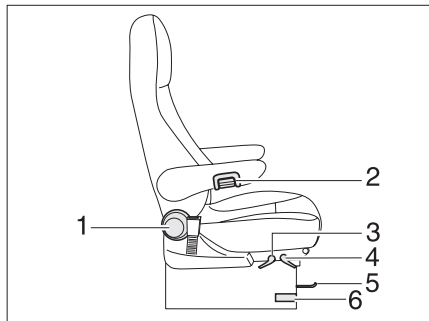

Fig. 11 Driver's seat and front passenger's seat
- ▶ Turn the seat in the direction of travel and lock it with the locking lever (Fig. 11,6).
- ▶ Turn the knurled wheel (Fig. 11,2) in an anticlockwise direction (when viewed from the front). The latch of the armrest is released by this.
- ▶ Pull the bar (Fig. 11,5). The seat can be moved forward or backward.
- ▶ Turn the knurled knob (Fig. 11,1). The backrest will be unlocked and can be adjusted.
- ▶ Pull the lever (Fig. 11,4) upwards. The inclination of the seat and backrest can be set.
- ▶ Pull the lever (Fig. 11,3) upwards.